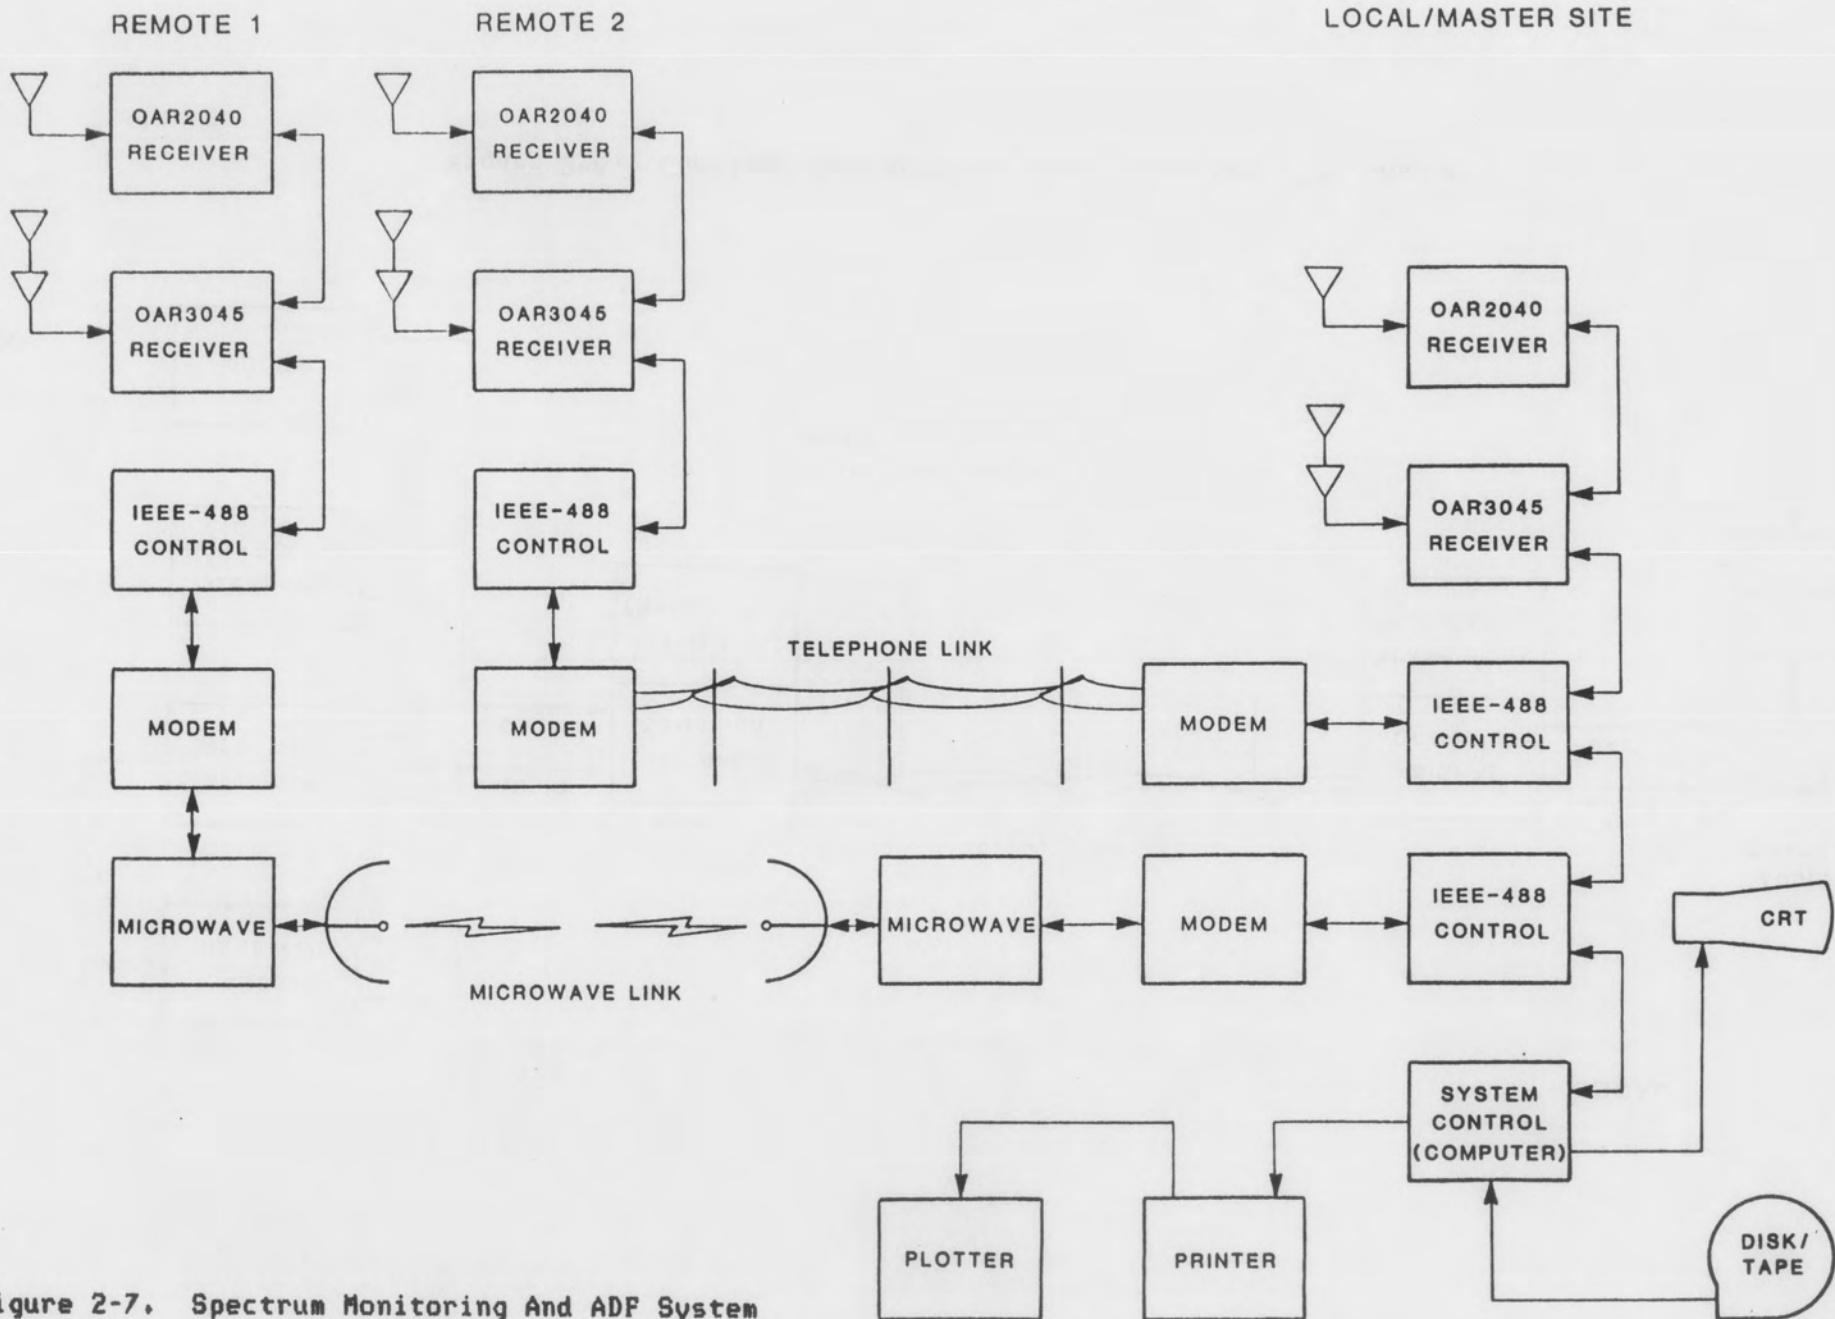

Figure 2-7. Spectrum Monitoring And ADF System
- E. The processor can be used for network control (see figure 2-7).
Each remote site will be set up like the local site with all receivers daisy-chained to the IEEE-488 controller which is connected to a modem, the interconnect medium (Telephone, RF or Microwave) and on the master (local) site, through a modem, back to a 488 controller. A typical network consisting of a master (local) site and two remote sites with one 2040/3045 combination at each site would look like figure 2-7. The audio part of the network is not shown. If only one